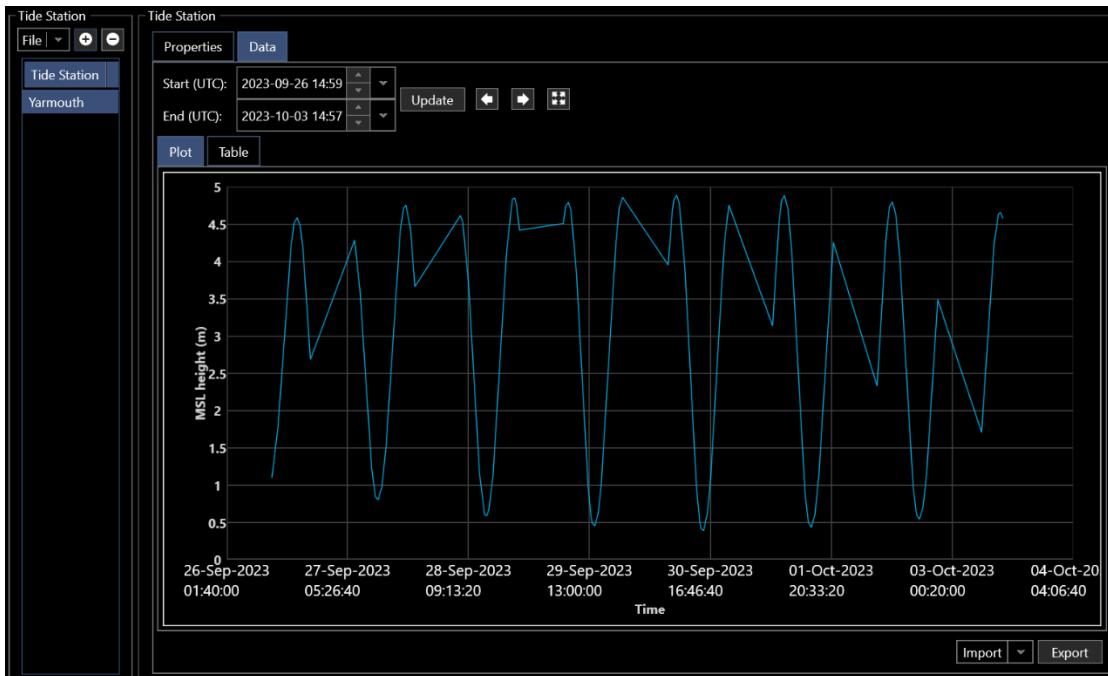

FIGURE 14-62 TIDES – MANAGEMENT – TIDE STATION – DATA TAB – TIDE DATA GRAPH
- II. Plot tab displays graphically the imported tide data (see Figure 14-62). The Table tab displays a data listing (see Figure 14-63)